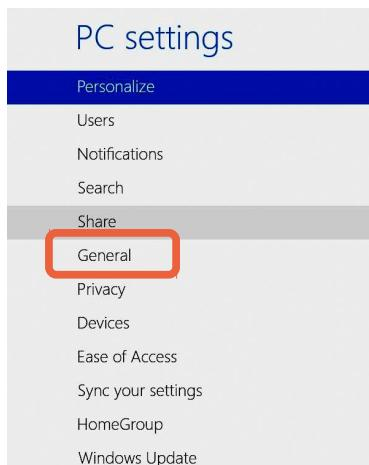

Figure 54: Click "General"
- Under the “**Change PC Settings**” section, click the “**General**” button (see Figure 54).